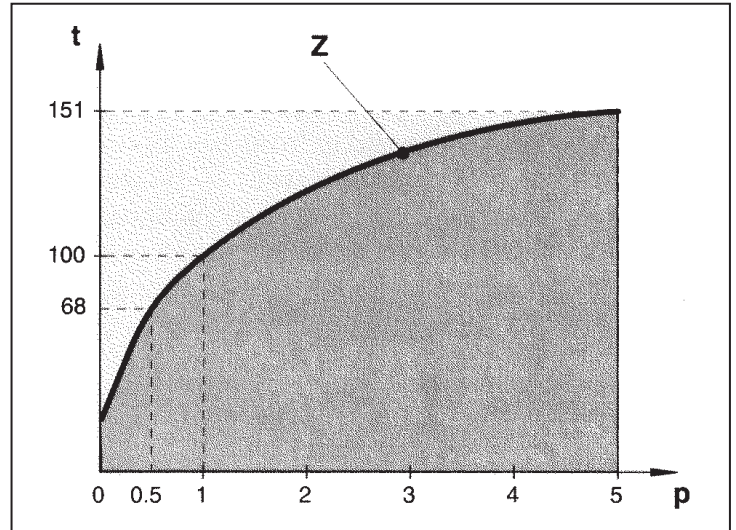

Fig. 11.19
This test may be repeated a significant number of times in different conditions to produce a graph (Fig.11.19), in which the curve (Z) represents all the temperature/pressure conditions in which the liquid state and the saturated vapour state of water are in equilibrium. In these combinations of pressure and temperature conditions, adding heat will transform the liquid into vapour, while subtracting heat will transform the vapour into liquid.